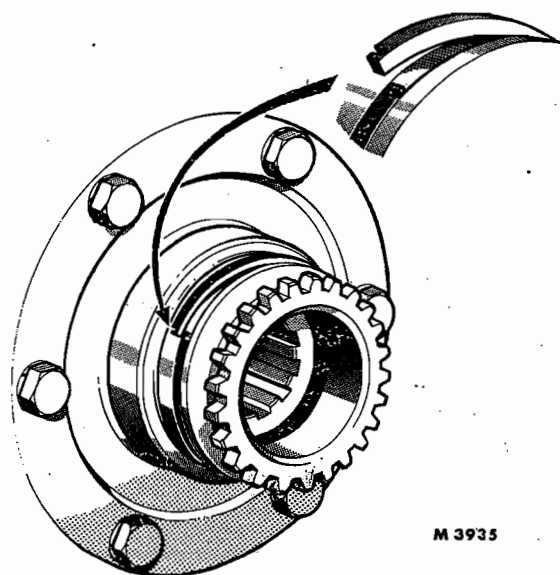

FIG. 2 THE SEAL RING IN POSITION
1. Remove the seal ring from the pump drive gear Fig. 2 and fill the groove with grease. Re-position the seal ring ensuring that the lugs overlap as shown. Centralise the ring, which will be held in position by the grease long enough to fit the gearbox.